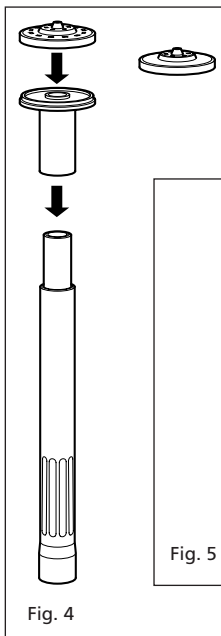

Fig. 4
- Select the desired fountain accessory. The 2 and 3 tier fountainheads simply snap onto the fountain stem (See Fig 4). The fountain stem pushes onto the narrower tube section of the telescopic fountain stem (See Fig 4). Then place the pump in the desired position. Note: Check that the inner stem of the telescopic tube has not been pushed inside the outer tube.